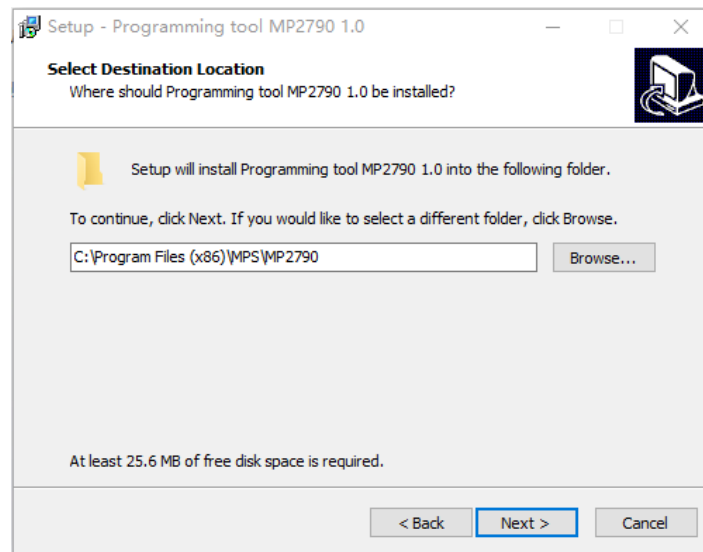

Figure 7: MPS GUI Set-Up Guide
2. Double click the “.exe” file to open the set-up guide (see Figure 7). If a protection window comes up, click “More info,” then click “Run anyway.”